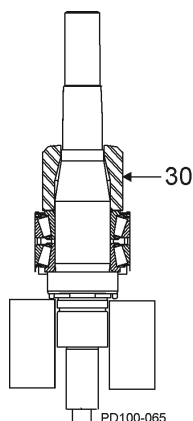

Figure 50 - Install Bearing Spacer
9. Install the bearing spacer (Figure 50, item 30).